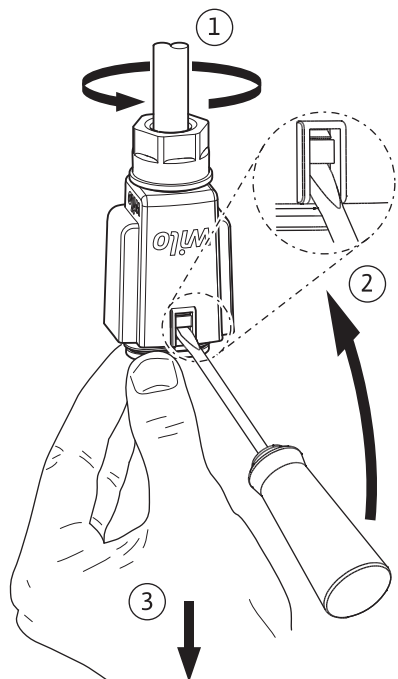

Fig. 6: Removing the Wilo-Connector
- Remove the Wilo-Connector from the pump using a suitable screwdriver (Fig. 6).